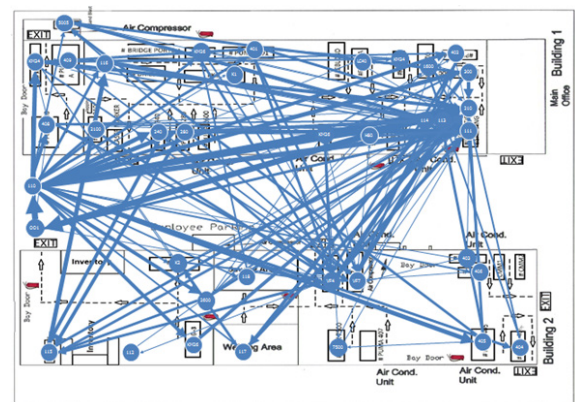

Figure 2—Production flow in a CNC machine shop with a functional layout.
*If the shop currently has a process layout, change it immediately!* In a process layout, similar/identical machines are colocated in functional departments (manual lathes, CNC lathes, manual mills, CNC mills, etc.). Any job shop that has a process layout will always operate in a batch-and-queue production mode. Figure 2 shows the production flow for a sample of 150+ different machined components produced in a CNC machining job shop that has a process layout. I would hesitate to recommend to any gear manufacturer/job shop to invest in Industry 4.0 if they persist with the worst type of factory layout for HMLV manufacturing.
*“Raze” and standardize the routings of all the parts within a part family:* Every effort should be made to critique and re-engineer the routings of all the parts that have been grouped into a part family based on their similar (or identical) routings. First, the routings should be standardized by eliminating the differences in the machines used and the sequences in which the machines are used. Next, the routings should be standardized by eliminating the differences in the fixtures, tools, gauges, etc. used. Although my research is ongoing, I have reason to believe that the functional layout of any job shop could be replaced by a Hybrid Flexible Flow Shop. What will that do to simplify the chaotic material flows that are typical in any job shop? Say you were to go and stand on the roof of the job shop and look down at the material flows on their shop floor. Instead of the Spaghetti Diagram seen in Figure 2, the material flow of each job, regardless of the sequence of machines in its routing, will follow a linear path from one end of the shop to the other as is always the case on an assembly line.